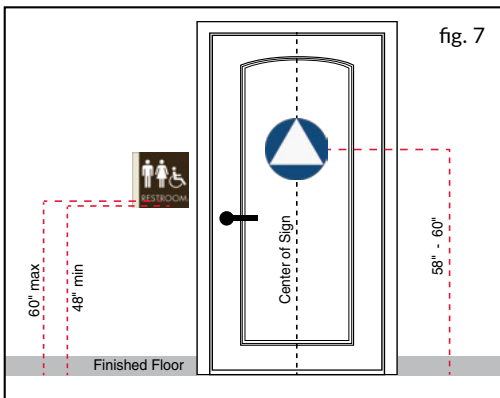

fig. 7
- The CBC requires the geometric restroom sign to be installed within 1 inch of the vertical centerline of the door, with the center of the sign 58" - 60" above the finished floor. (see fig. 7)